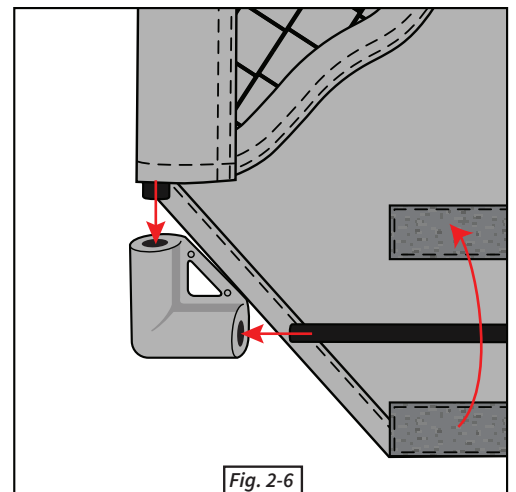

Fig. 2-6
6. Open the long velcro flap on the front side of the net and using a long rod and two L joints complete the base structure. (Fig. 2-6)